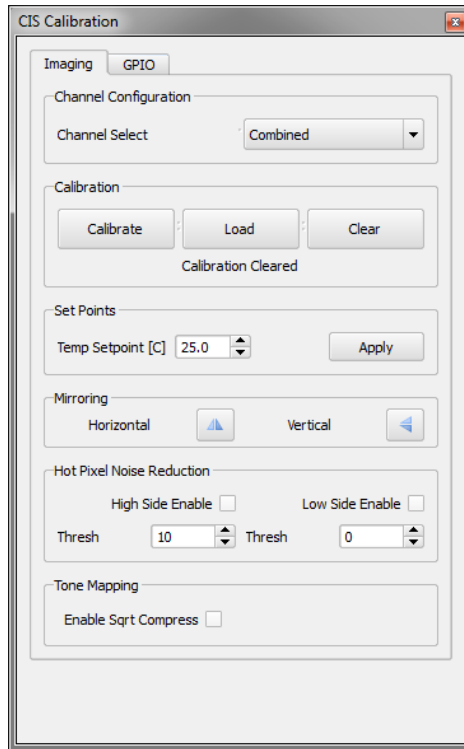

Figure 6: CIS Calibration - Imaging
4.5.1 Channel Configuration (Figure 6)
4.5.2 Calibration (Figure 6)
4.5.3 Set Point (Figure 6)
4.5.4 Mirroring (Figure 6)
4.5.5 Hot Pixel Noise Reduction (Figure 6)
4.5.6 Tone Mapping (Figure 6)
4. If using a **MityCAM-B2521F** please skip to the next step. The **MityCAM-B1910F** requires that the image be mirrored over both the Y axis and X axis to obtain proper image orientation. These settings can be found on the **CIS – Calibration** control panel, Figure 6, of Section 4.5.
7. If using a **MityCAM-B2521F** please skip to the next step. The **MityCAM-B1910F** requires that the image be mirrored over both the Y axis and X axis to obtain proper image orientation. These settings can be found on the **CIS – Calibration** control panel, Figure 6, of Section 4.5.